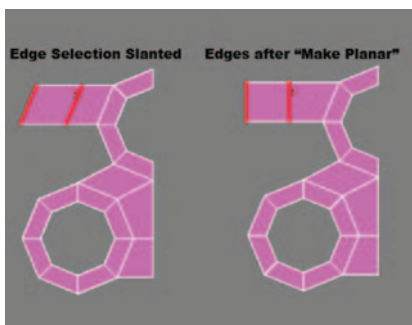

Figure 5.8 Make Planar doing its job. Select one edge at a time.
9. The new edges are slanting a bit diagonally; use Make Planar to straighten them. In my example I made them planar in the X direction. *Note: You want to use Make Planar on one edge selection at a time* (Figure 5.8).